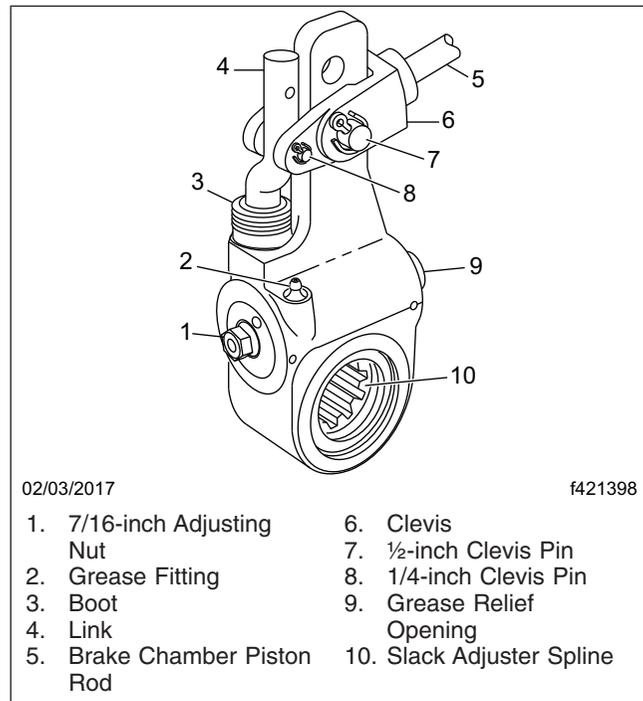
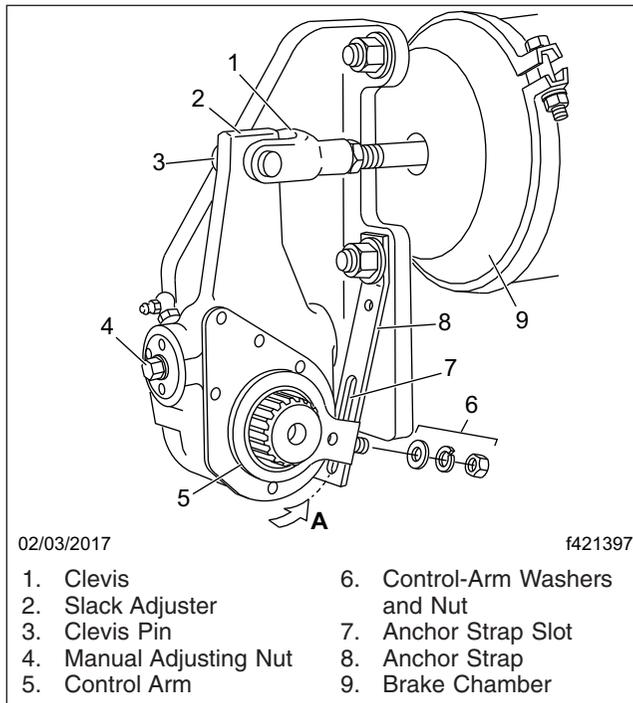
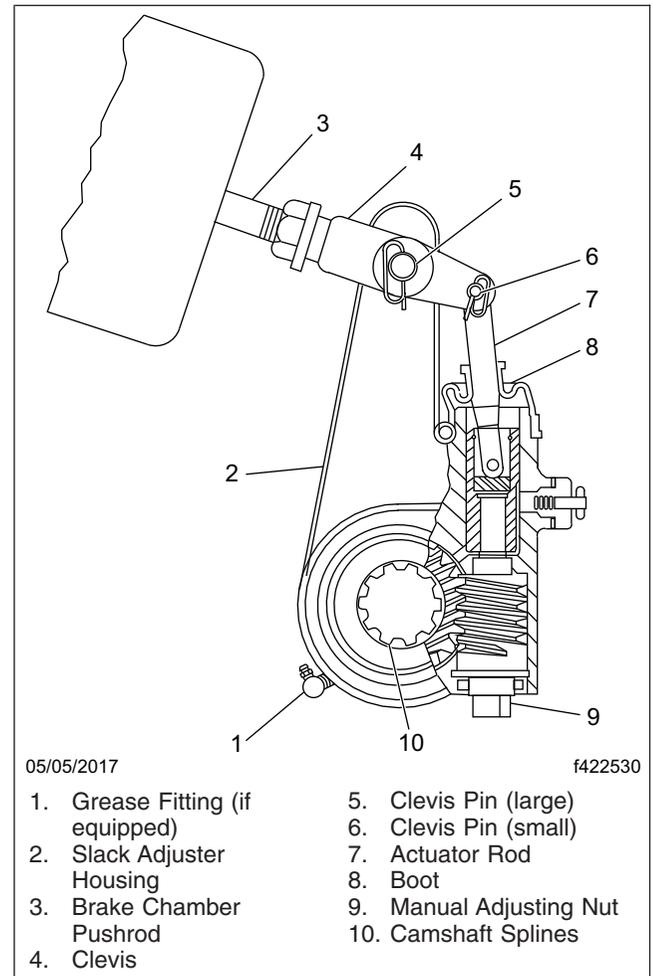

Fig. 25.1, Gunite Automatic Slack Adjuster
Fig. 25.2, Haldex Automatic Slack Adjuster
Fig. 25.3, Meritor Automatic Slack Adjuster
2. Inspect slack adjusters for signs of damage. See Fig. 25.1, Fig. 25.2, or Fig. 25.3.